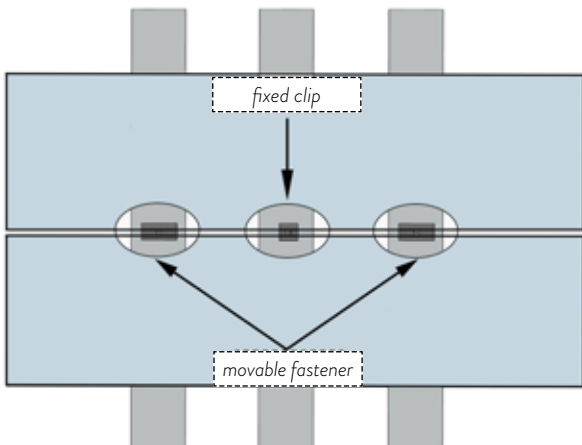

Figure 4
- 2 Fixed and movable fastener arrangement schematic, as shown in Figure 4: